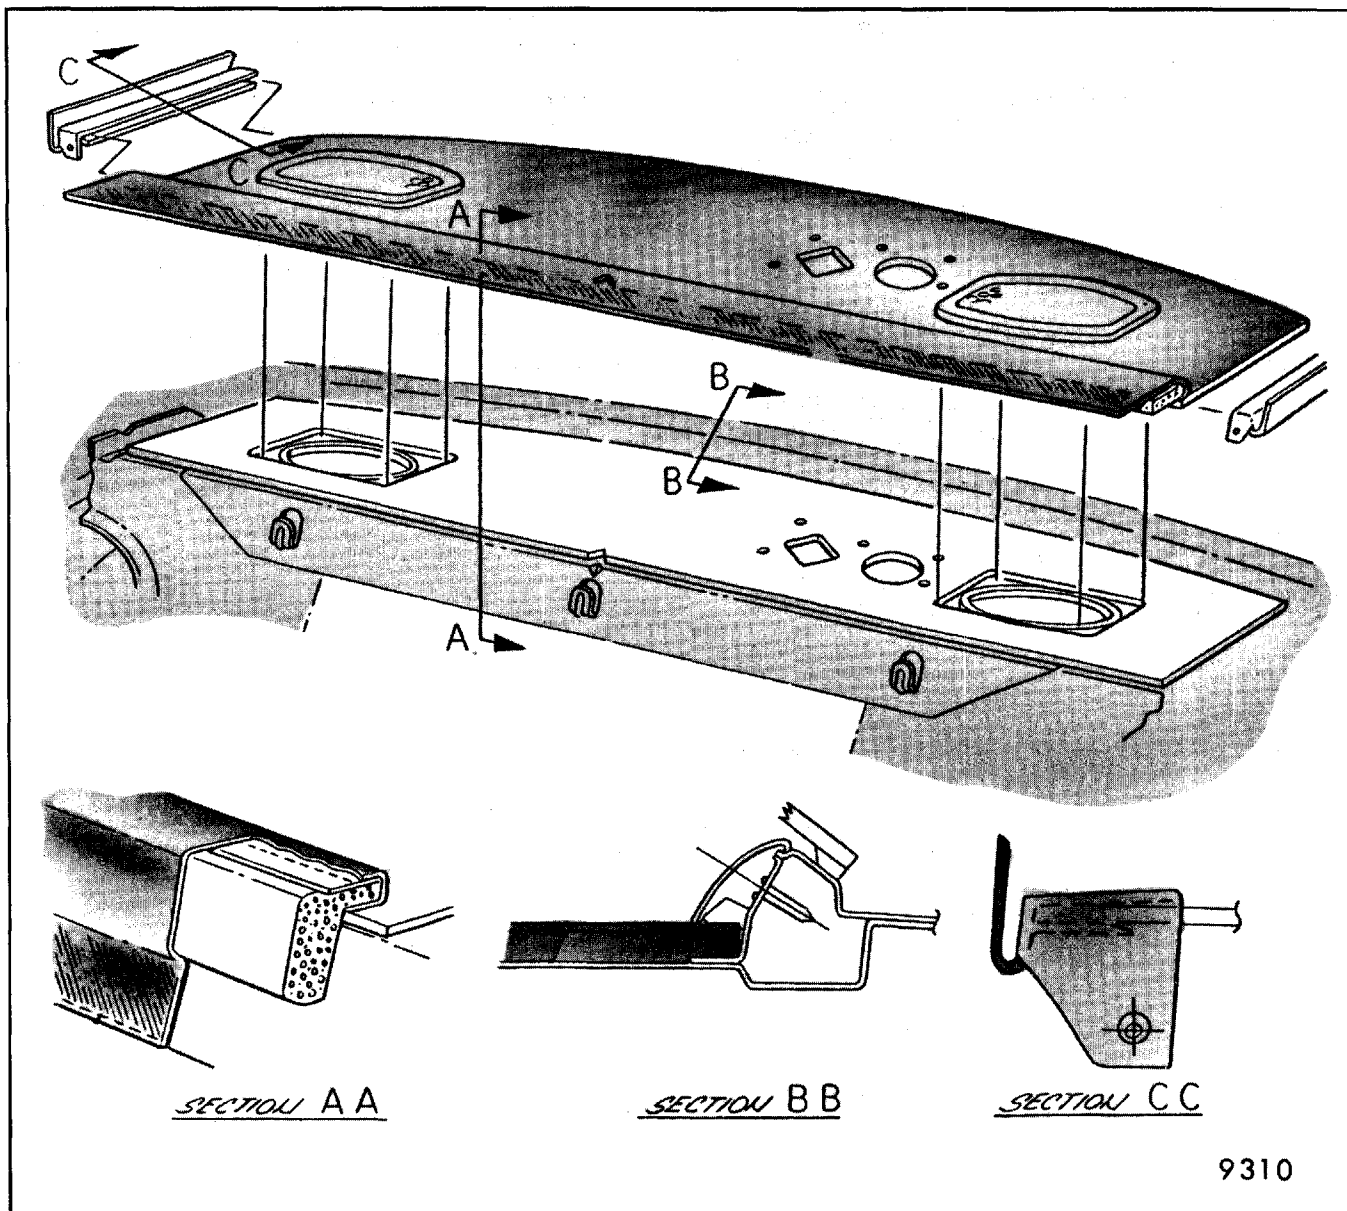

Fig. 9-109-Rear Seat to Back Window Trim Finishing Panel - B- 69 Style Shown (Other Styles Similar)
7. Carefully break cement bond securing trim assembly at seat back panel (Fig. 9-109).
9. To install, position trim assembly to back window panel by inserting rear edge of assembly under garnish molding or feature strip. Center and align front edge of trim assembly with front edge of seat back panel as shown in Figure 9-109. With nonstaining vinyl trim adhesive, cement valance of trim assembly to seat back panel as shown. Install attaching screws if present, then reverse balance of removal procedure.